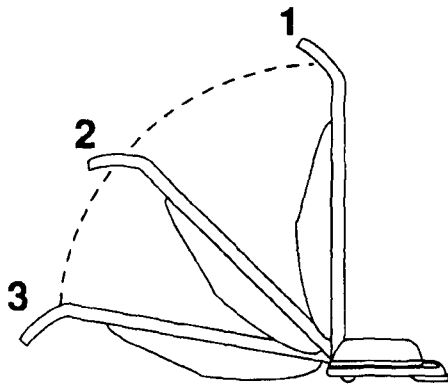

Figure 8
use. (2) Normal for sweeping. (3) Low when cleaning under low furniture (Figure 8).